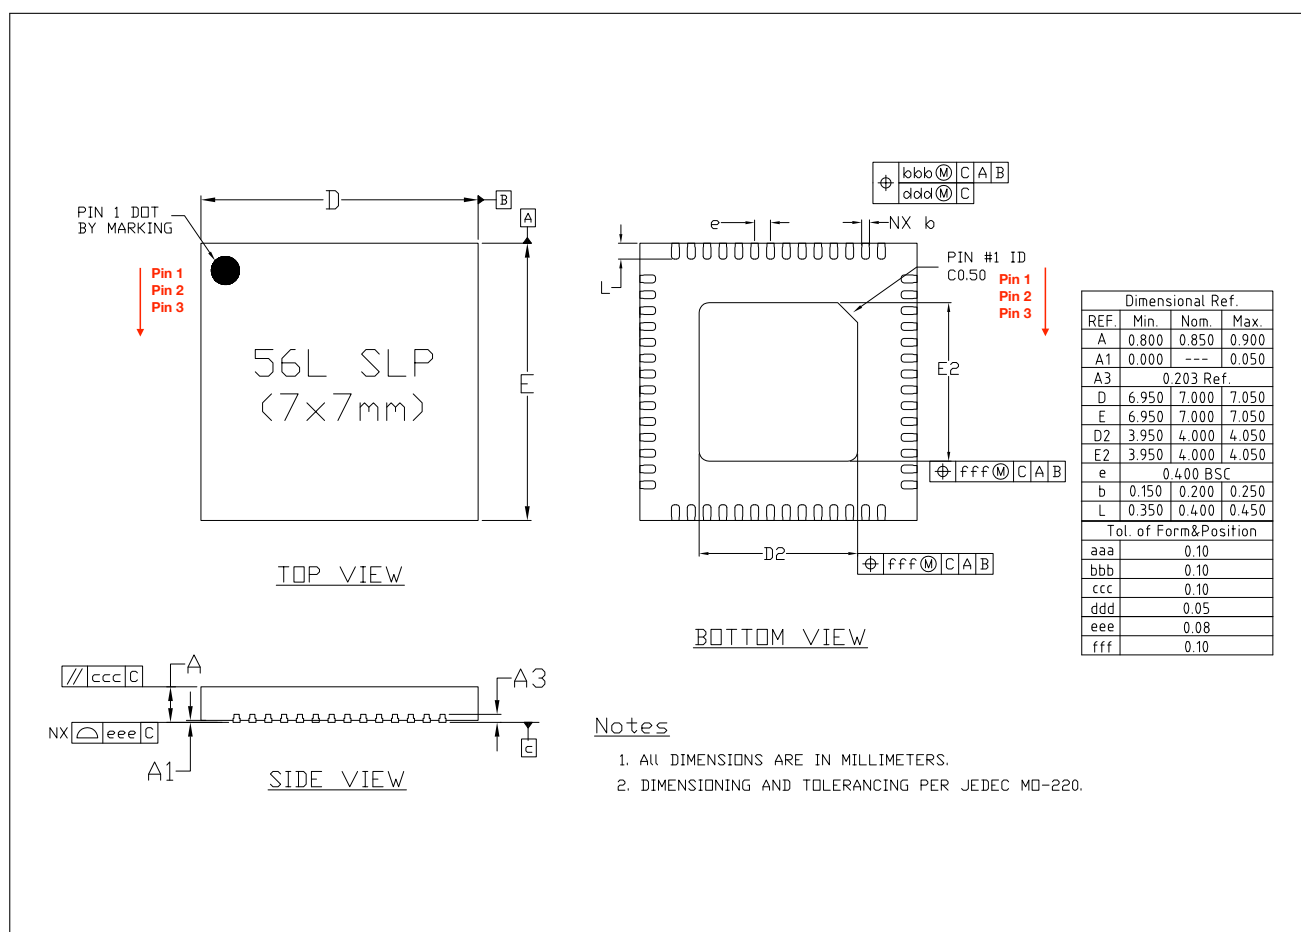
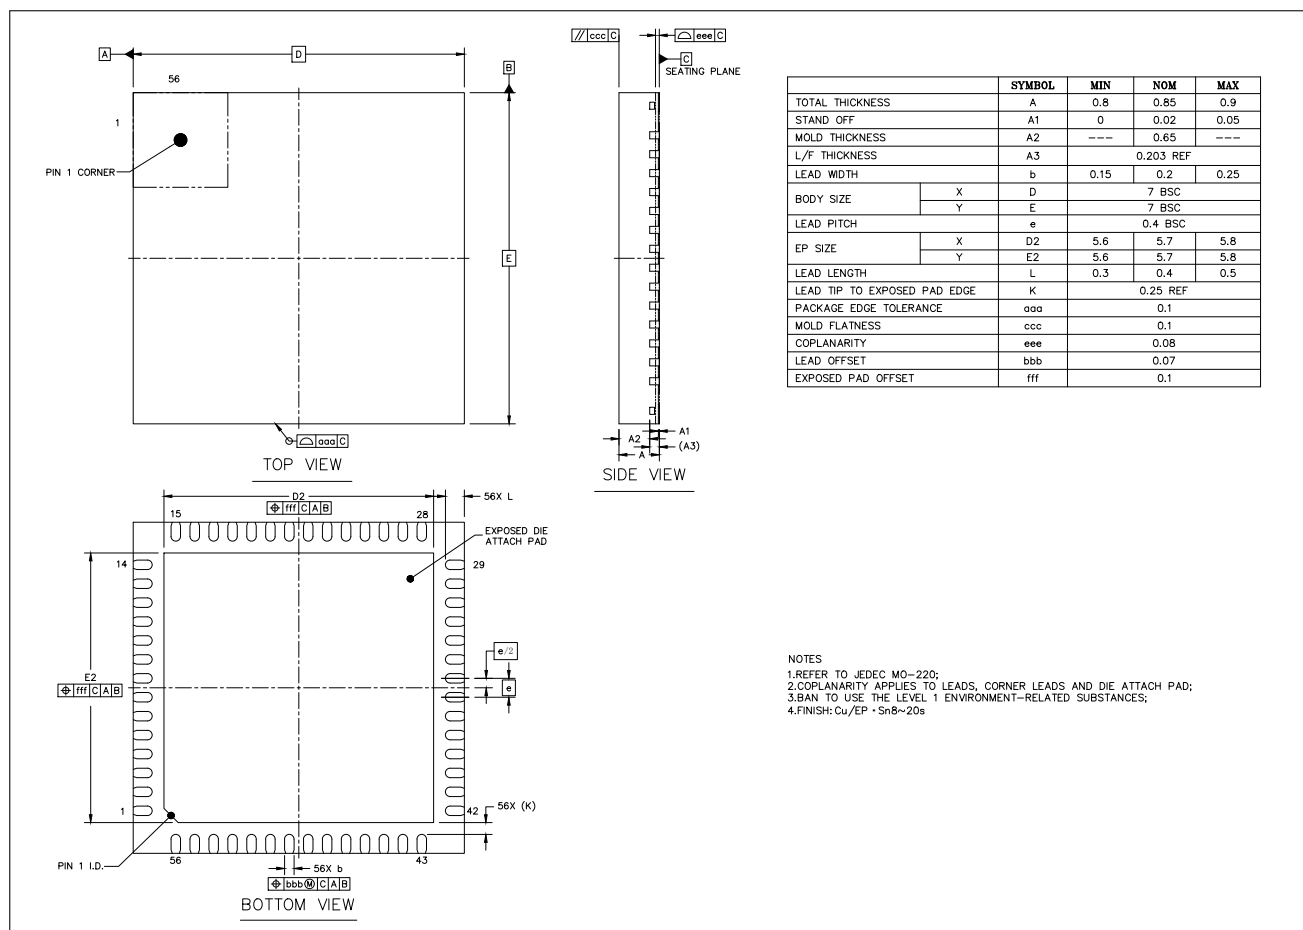

Figure 5-1. QFN56 (7x7 mm) Package
Figure 5-2. QFNWB (7x7 mm) Package for ESP32-S3FH4R2
- All ESP32-S3 chip variants have identical land pattern (see Figure 5-1) except ESP32-S3FH4R2 has a bigger EPAD (see Figure 5-2). The source file \(dxf\) may be adopted for ESP32-S3FH4R2 by altering the size of the EPAD (see dimensions D2 and E2 in Figure 5-2).